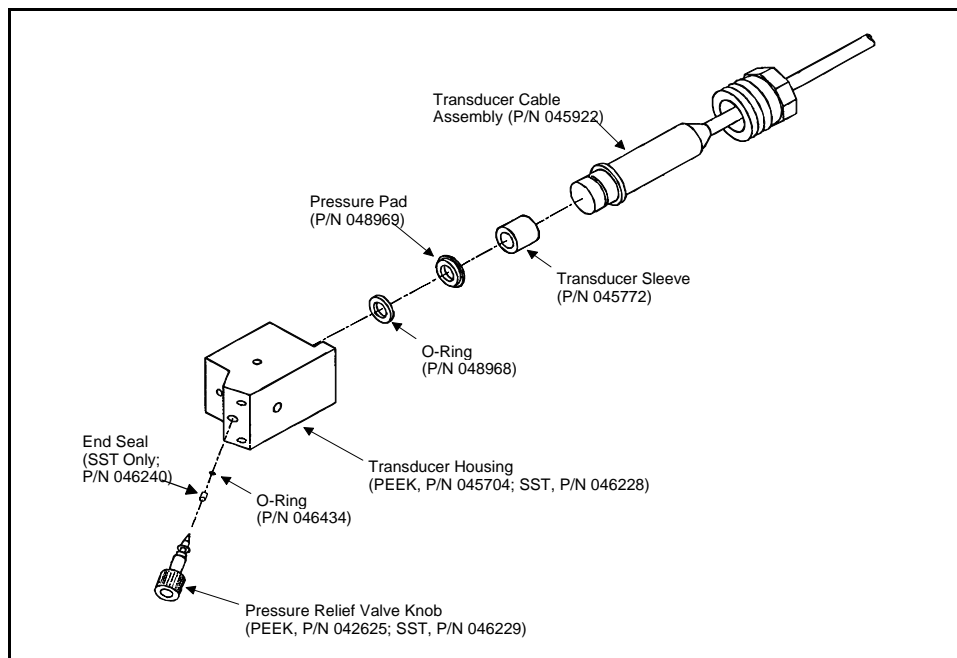

Figure 5-6. Pressure Transducer Assembly
7. Remove the transducer cable assembly and sleeve (see Figure 5-6).